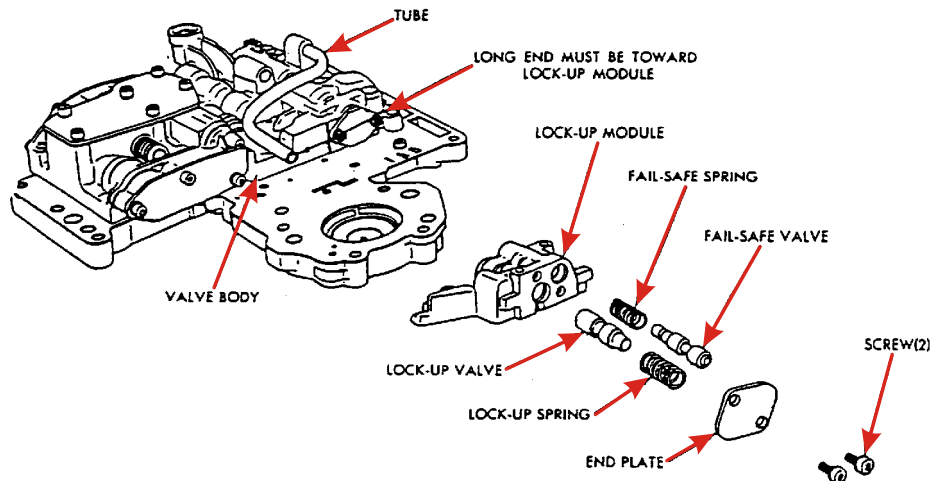

Figure 1
2. Lower valve body just enough to remove torque converter lock-up spring, replace with supplied spring, PN 4202672. Re-use the existing lock-up valve, fail safe valve and spring, cover, and screws (Figure 1).